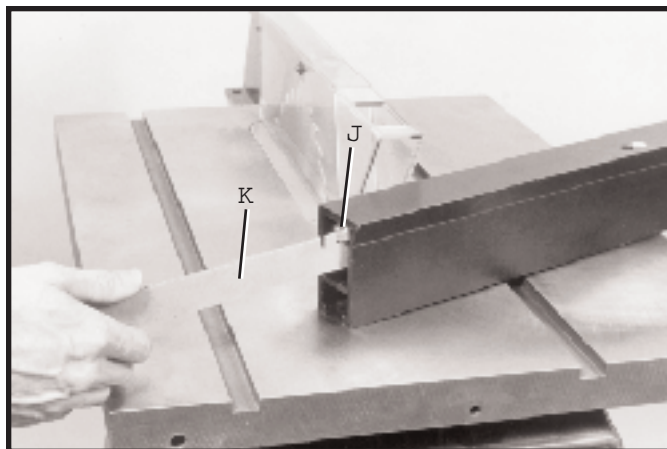

Fig. 29
14. Locate the cardboard template (K) Fig. 29, from the packing material of the Unifence.
15. Place the two $\frac{3}{8}$ - 24 hex nuts, one of which is shown at (J) Fig. 29, in position on the two tabs on the cardboard template (K).
16. Insert cardboard template (K) into channel in end of guide rail, as shown in Fig. 29, until the hex nuts, one of which is shown at (J), line up with the mounting holes in the rail.